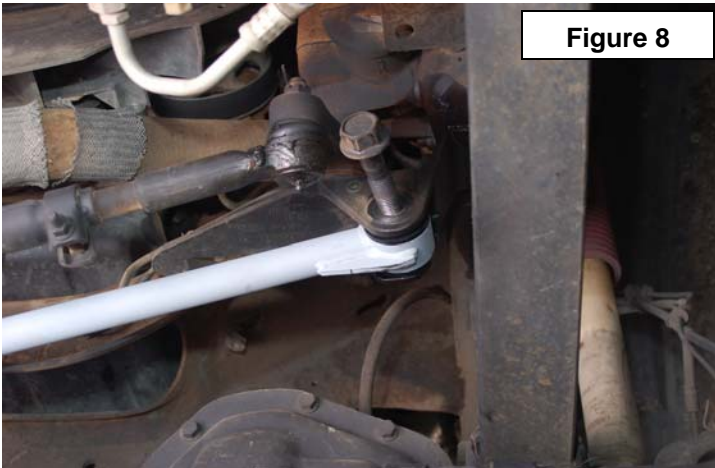

Figure 8
20. After vehicle is on the ground, the new track rod can be installed. Install new track rod with stock hardware and using a 30mm socket. **See Figure 8 & 9.** It may be necessary to turn the steering wheel to align the track rod in the mount. This is best accomplished with two people. One turning the steering wheel and one under the truck inserting the bolts in the mounts.